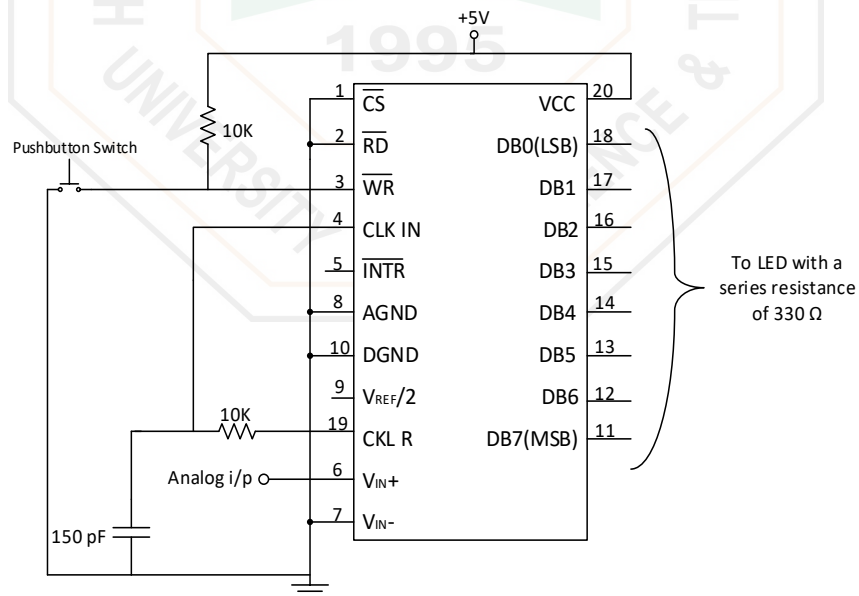

Figure-4
2. Construct the circuit as shown in figure-4.